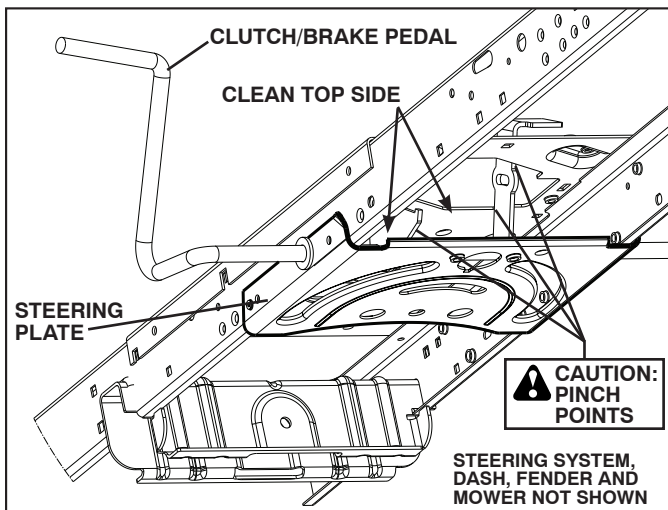

Fig. 19
**CAUTION:** Avoid all pinch points and movable parts (See Fig. 19)